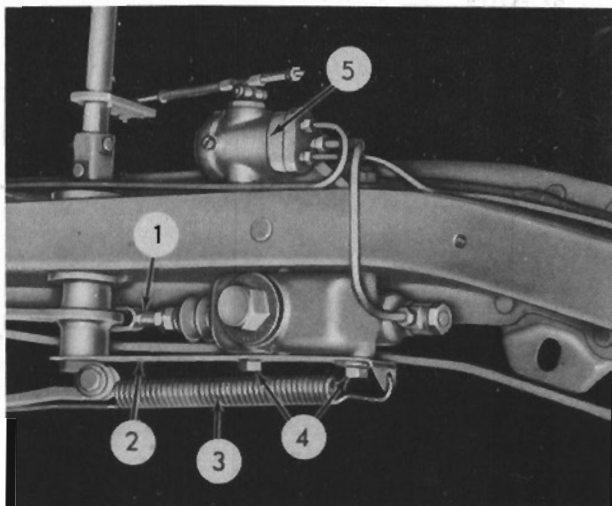

FIG. 3
Unhook the clutch pedal pullback spring from the master cylinder support strap, and remove the brake pedal pullback spring by unhooking it first from its frame bracket and then from the spring clip which is attached to the master cylinder-to-pedal rod. Disconnect the fluid line or lines at the rear of the master cylinder. On cars equipped with a Hill Holder, only one line is connected to the master cylinder (see Fig. 3). Remove the brake pedal clevis pin and disconnect the brake pedal-to-master cylinder rod (1, Fig. 3) at the brake pedal. Remove the mounting bolt nuts and star washers from the mounting bolts (4), swing the support strap (2) down out of position, and remove the master cylinder. Insert the forward mounting bolt to support the Hill Holder while the master cylinder is off the car.